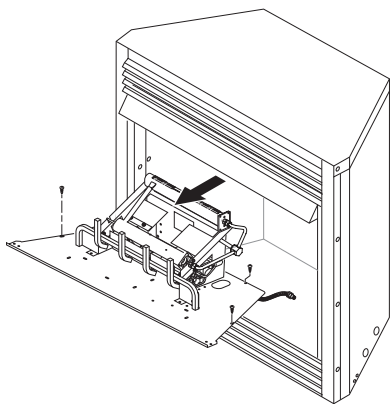

Figure 19 - Removing Log Base Assembly From Fireplace
2. Remove screws that attach log base assembly to fireplace (see Figure 19, page 15). Carefully lift up log base assembly and remove from fireplace (see Figure 19, page 15).